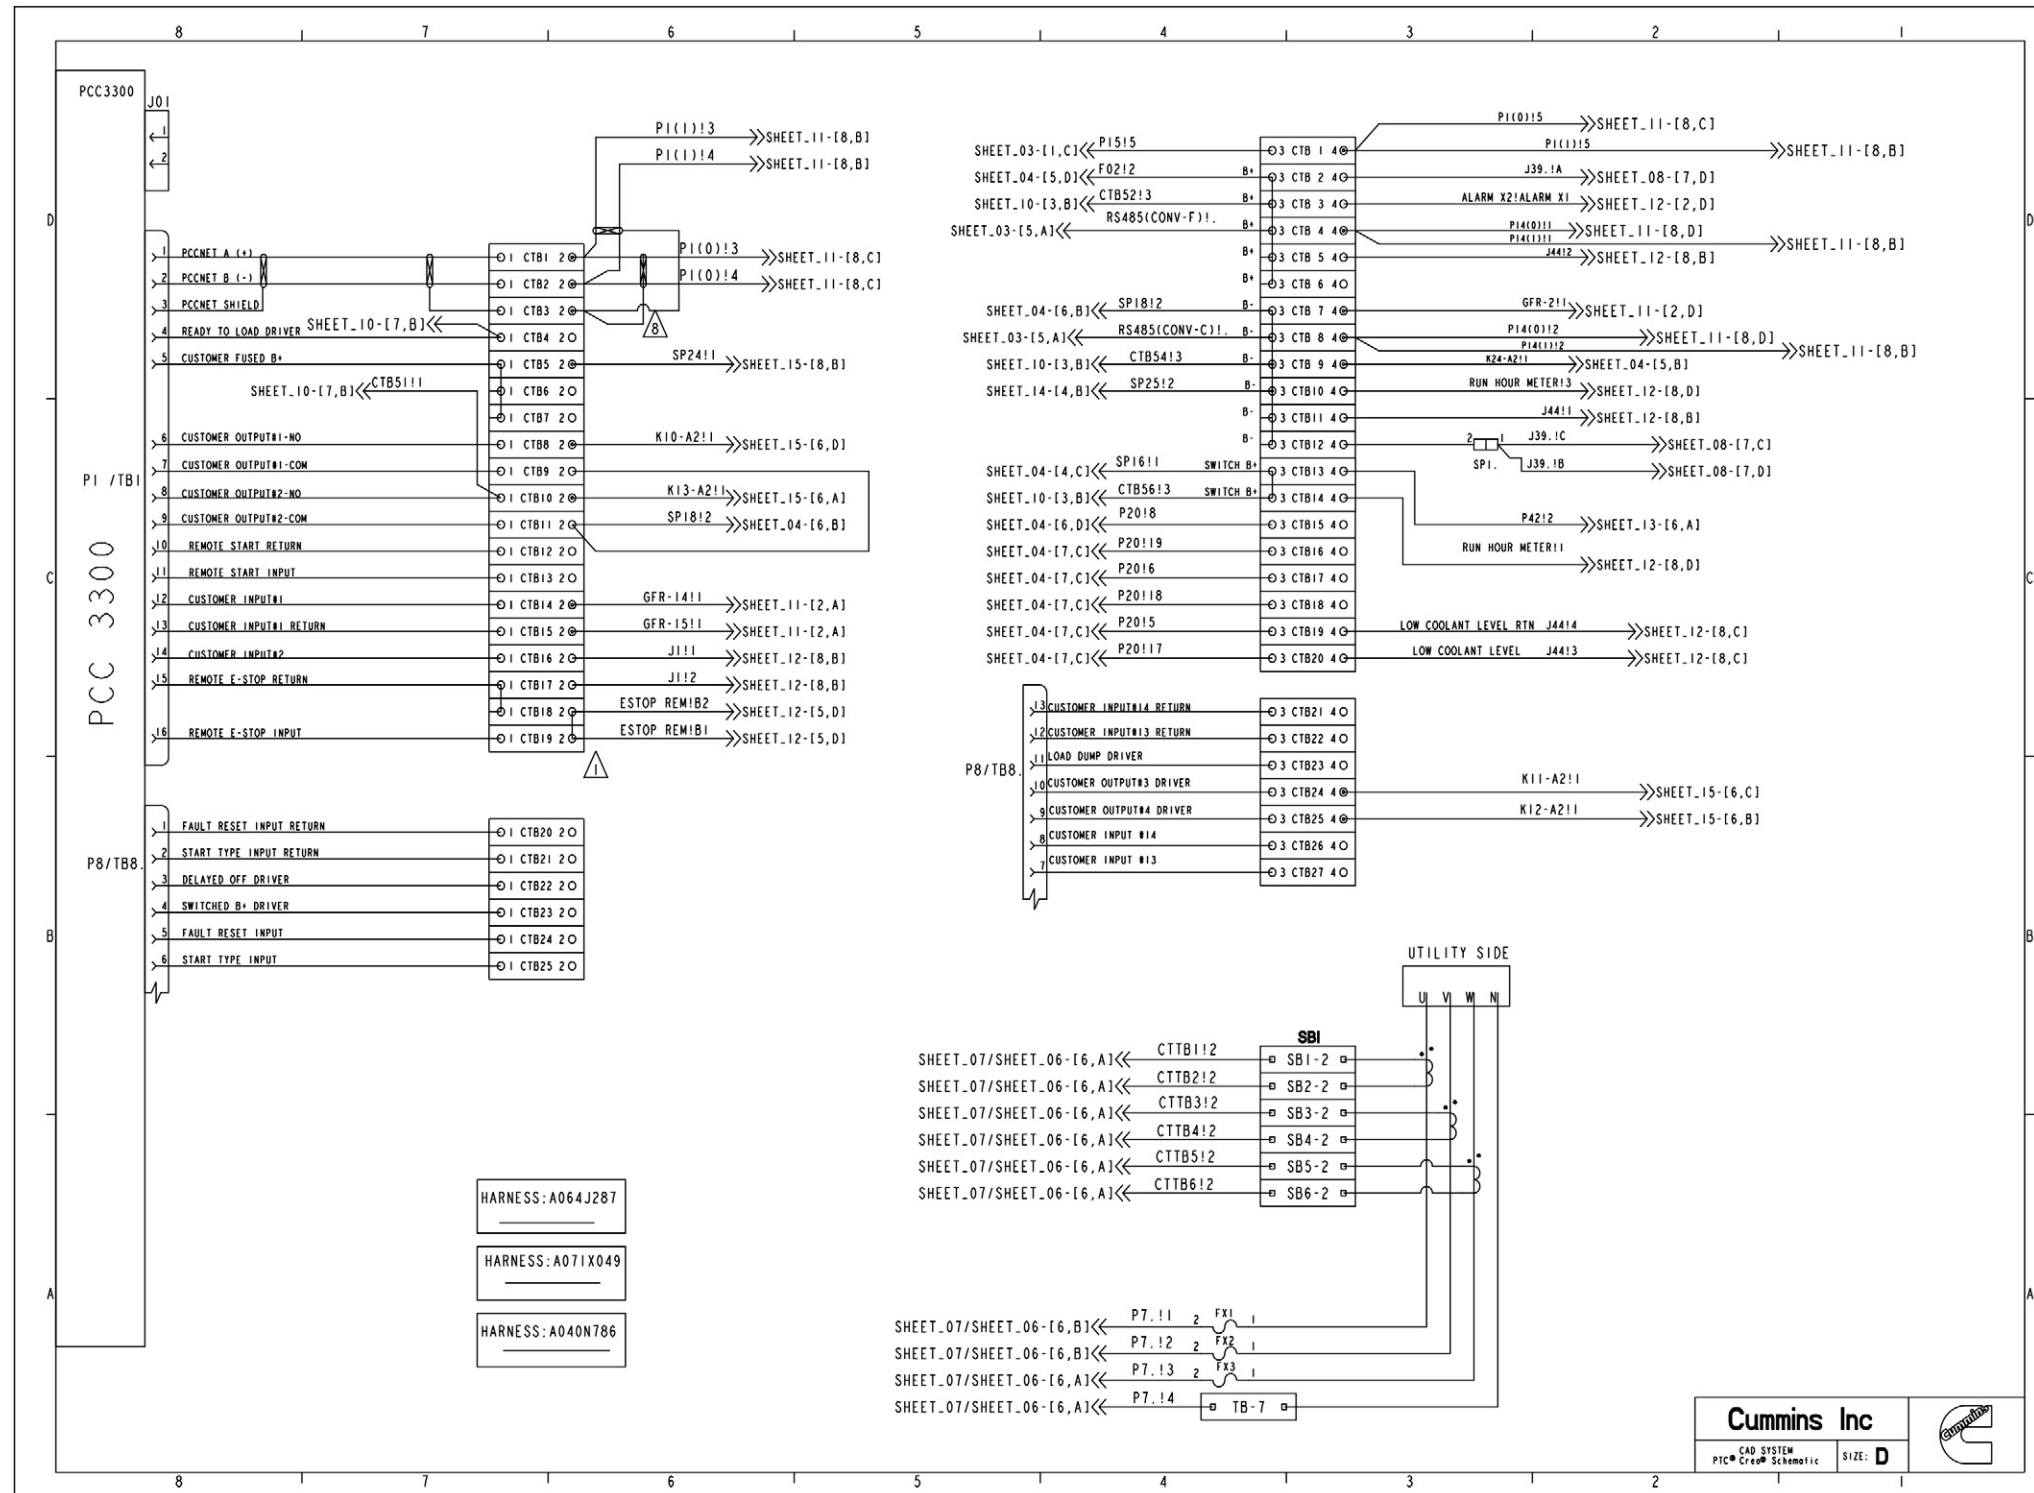

FIGURE 64. WIRING SCHEMATIC (SHEET 9)
- Figure 64. Wiring Schematic (Sheet 9) 119